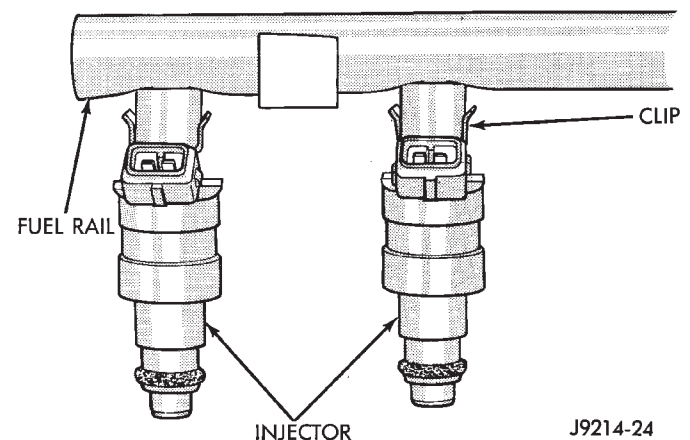

Fig. 6 Injector Retaining Clips
- (1) Remove the fuel rail. Refer to Fuel Rail Removal in this section.
- (2) Remove the clip(s) that retain the fuel injector(s) to the fuel rail (Fig. 6).